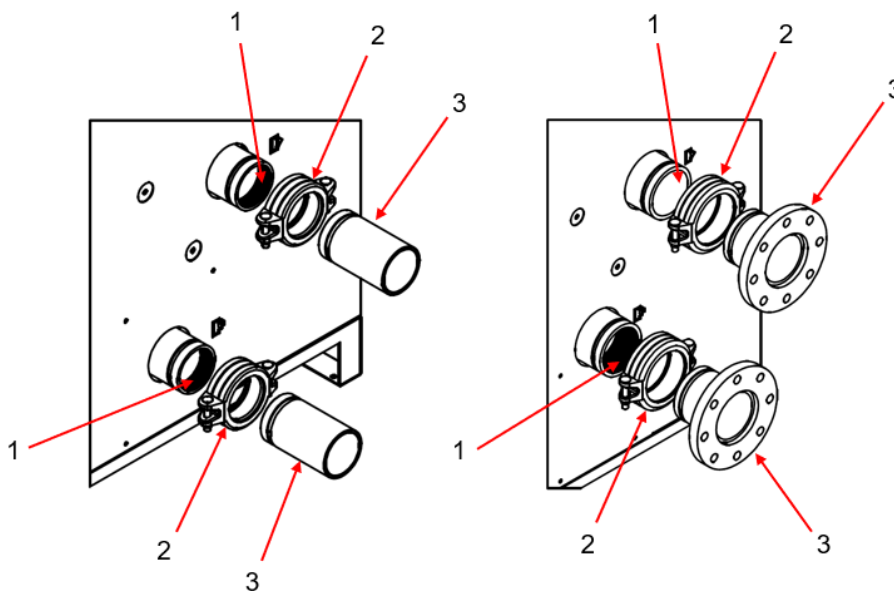

Fig.6
The dryer models in the E16-E19 range are equipped with couplings (2) and threaded adapters (E16-E17) / flanged adapters (E17.5-E18-E18.5-E19) (3) supplied with the machine (Fig. 6).